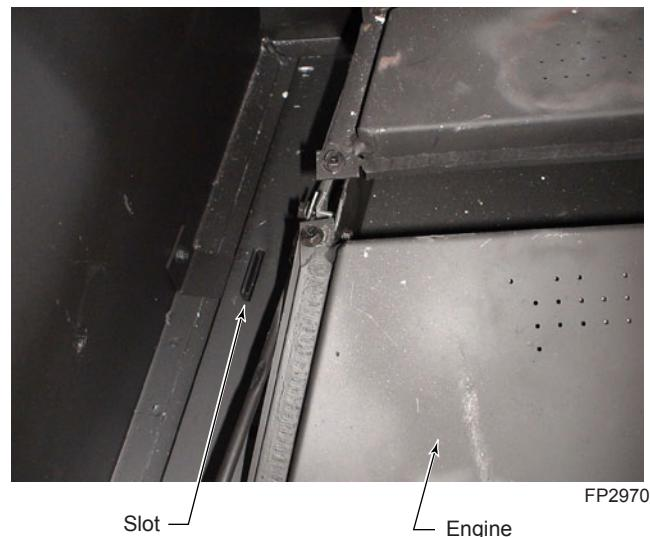

Figure 15 -
5. Place slot on left side of engine bottom onto bracket on left side of firebox to prevent engine from shifting. *Figure 15*